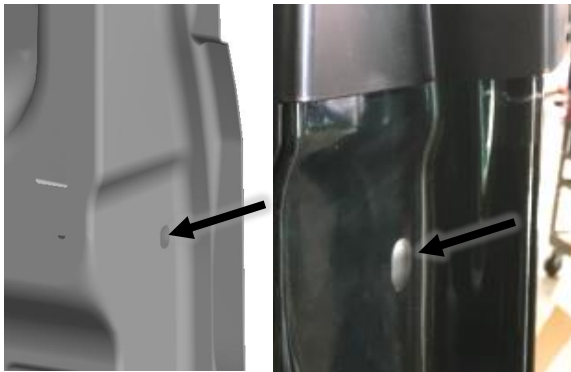

Figure 22: Door Seam Plastic Plug Removal
18. Remove plastic plug on the midline door seam (Figure 22).